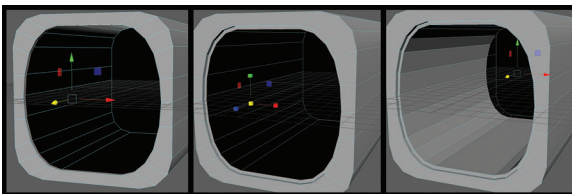

FIGURE 1.13 Using the Extrude tool (Shift-drag) to create polygons for the inside of the form.
Step 9: Extrude the inner face. Double-click on any edge of the hole to select the edge loop around the hole. Hold down shift and left-mouse-button and drag the loop inward a little; this is a quick shortcut to extrude a new ring of polygons. Select the edge ring along the newly extruded edge and hold down the Shift + right mouse button. In the resulting pop-up menu, select Soften/Harden Edges->Soften Edge; this will make the inner edges soft. This command is the same command in the Mesh Display->Soften Edge. Hit the R button to switch to the Scale tool. Hold down Shift again and drag the yellow box in the middle to extrude a new small ring of polygons. Switch to Move tool, hold down shift and drag the new edge ring toward the back of the form to fill out the inside (Figure 1.13).